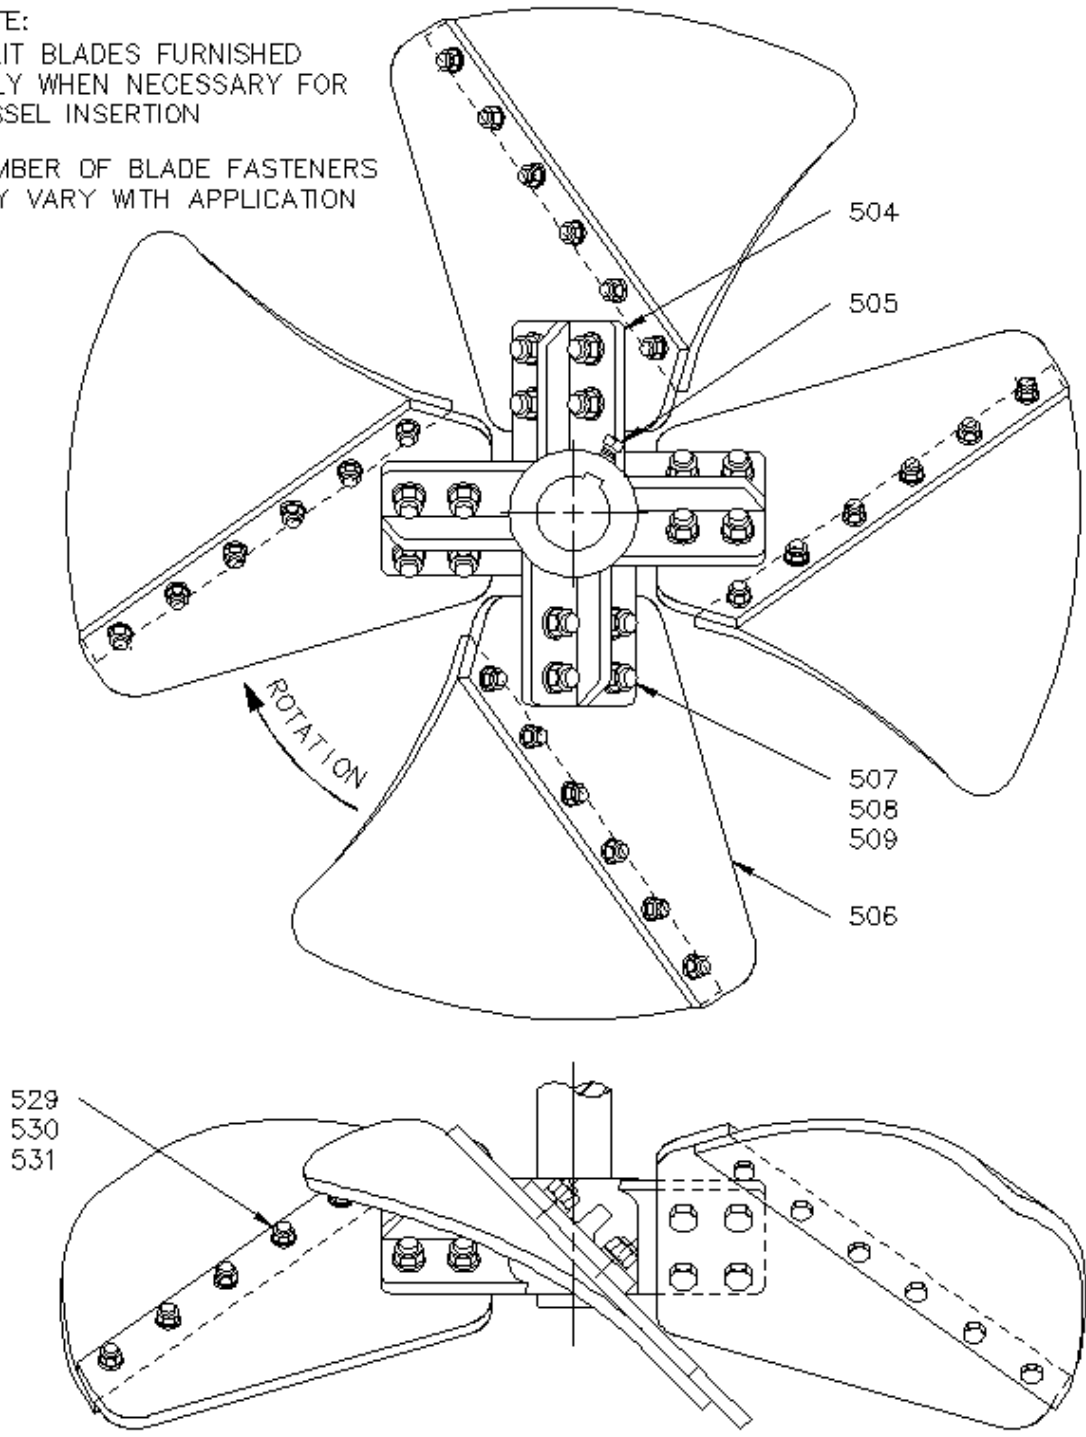

Figure 23. Style Maxflo W Impeller
4. Bolt extension blades [506] to the hub [504] with bolts, nuts and lockwashers [507, 509, 508]. Refer to Figure 18 through Figure 23, page 41 through 47. Bolt split blades, if furnished, to extension blades with bolts, nuts and lockwashers [529, 531, 530]. Bolt stabilizer fins [510], if furnished, to extension blades with bolts, nuts, and lockwashers [511, 513, 512]. Torque bolts to the value shown in Table 17, page 100.